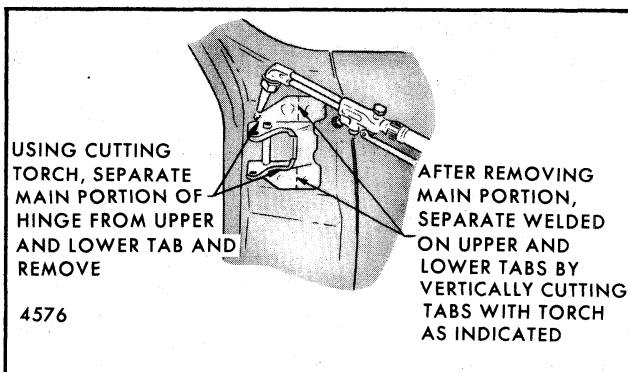

Fig. 5-77-Body Side Hinge Strap Removal - "X" Styles
4. Using a cutting torch, separate main portion of hinge from upper and lower tabs. After main portion has been removed, vertically cut upper and lower hinge tabs with cutting torch as shown in Figure 5-77.